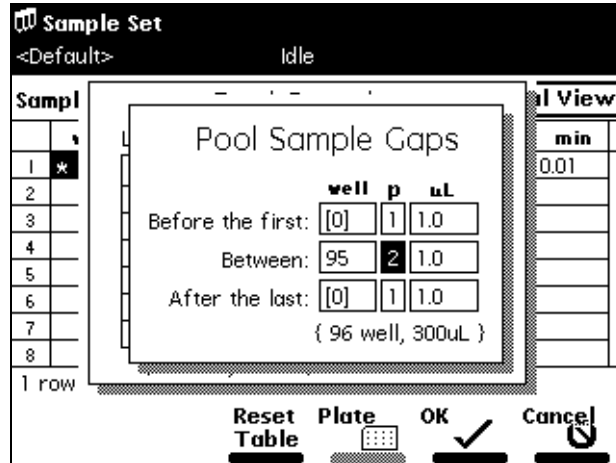

Figure 5-34 Pool Sample Gaps Dialog Box
6. To specify air or liquid gaps between sample aliquots in the pool, press the **Sample Gaps** screen key to display the Pool Sample Gaps dialog box (Figure 5-34).